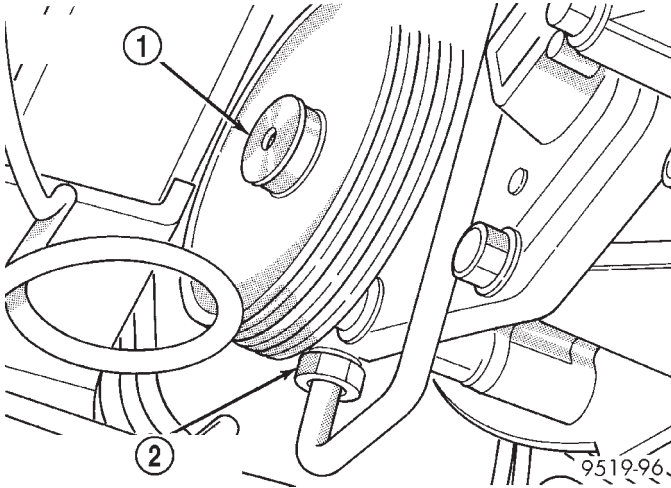
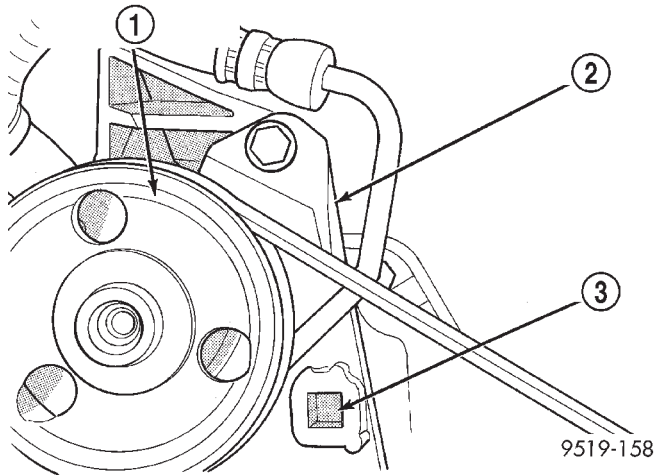

Fig. 17 Pump Pressure Hose At Fitting
Fig. 19 Power Steering Pump Front Mounting Bracket Adjusting Hole
(11) Move the power steering pump toward the engine as far as possible.
(12) Remove the power steering fluid pressure hose from pressure fitting on power steering pump (Fig. 17). Be careful not to loose the copper sealing washers on both sides of the hose banjo fitting once the flow bolt is removed. Let the remaining power steering fluid drain out of the power steering fluid supply hose, power steering pump and power steering fluid pressure hose. **After power steering fluid has drained out of pump and hose, install a cap on the power steering pressure hose and a plug in the power steering pump pressure fitting.**
(13) Remove the power steering pump drive belt from power steering pump pulley.
(6) Using a lint free towel, wipe clean all open power steering hose ends, and power steering pump fittings.
(7) Install a new O-ring on end of power steering pressure hose fitting. Lubricate all O-rings using fresh clean power steering fluid.
(8) Install the power steering pressure hose on the power steering pump pressure fitting. Loosely install tube nut into pressure fitting on power steering pump (Fig. 17). **Pressure hose must be installed between the front bracket of the power steering pump and power steering pump pulley.**
(9) Install power steering pump drive belt on power steering pump pulley.
(10) Install a 1/2 inch breaker bar in the square adjusting hole in the front power steering pump mounting bracket (Fig. 19), then rotate pump to obtain the correct drive belt tension. Refer to COOLING SYSTEM (Group 7) of this service manual for the correct drive belt tension specification. When correct drive belt tension is obtained, first tighten the bottom 2 adjusting slot bolts at the power steering pump cast mounting bracket to a torque of 54 N·m (40 ft. lbs.), then tighten the power steering pump mounting bracket top pivot bolt to a torque of 54 N·m (40 ft. lbs.).